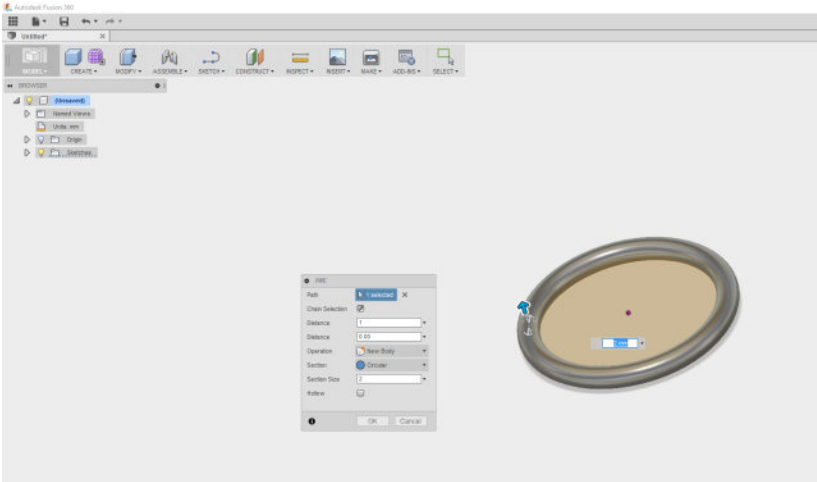

Figure 11-9. A 3D pipe appears with a menu option
9. Click the edge of the circle. A 3D model will be generated and a menu will pop up as shown in Figure 11-9.